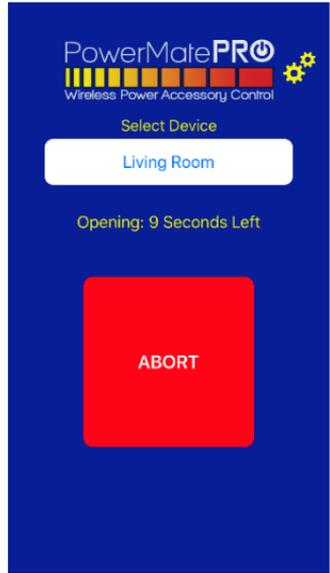

figure 13
- 4)** If the device you have selected does not have Auto Operation enabled, use the Open or Close buttons (Figure 7) to operate the currently active device. If the device you selected does have Auto Operation enabled, use the Open, Close or either of the Auto buttons to operate the currently active device. Note that once you have initiated an Auto Open or Close operation a large red Abort button will be displayed (Figure 13). Tapping the Abort button at any time during the Auto operation of the power system will immediately cease the operation of the active power system.